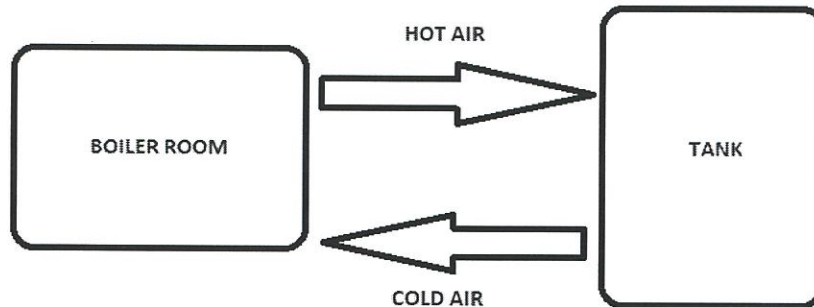

Figure Q1(a)
- a) As an engineer working in ABABA Sdn. Bhd., you are required to design a new boiler room for a food drying purpose. Provide a complete Piping and Instrumentation diagram (P&ID) based on **Figure Q1(a)**. It should at least contain a water source, a heat exchanger, and a heating tank. A computer-based controller is also required to ensure stable operation for the whole system.